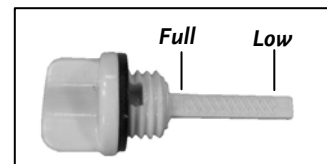

Figure 21
- Position the machine so the Frame and Engine are level. Remove the Oil Fill/Dipstick and clean the end of it with a rag (**Figure 21**).